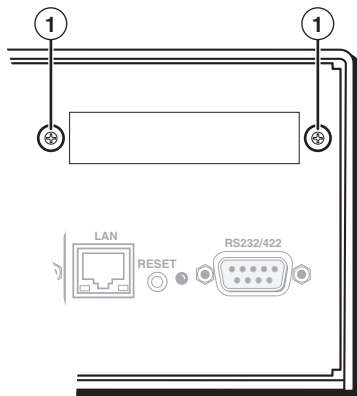

Figure 6 — Blank panel removal
2. On the rear panel (figure 6), remove the two screws (①) that secure the blank panel to the ISS panel. Remove and discard the panel.